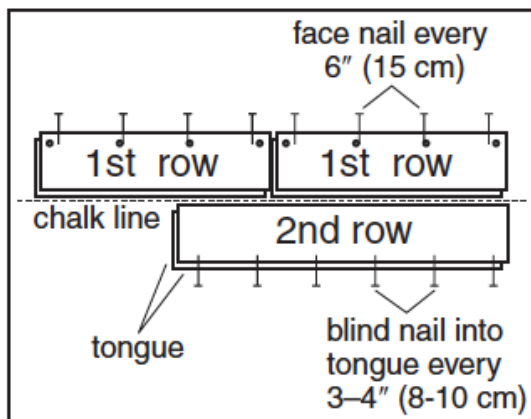

Figure 6
- Use the longest, straightest boards available for the first two rows. Align tongue of first row on chalk line. The groove should be facing the starting wall. Pre-drill 1/2" (13 mm) from back (groove) edge, 1"-2" (2.5-5 cm) from each end, and at 6" (15 cm) intervals when possible (**Figure 6**). Fasten using 4 or 6d finishing nails or 1" (2.5 cm) pneumatic finish nails/brads. Countersink the nails.